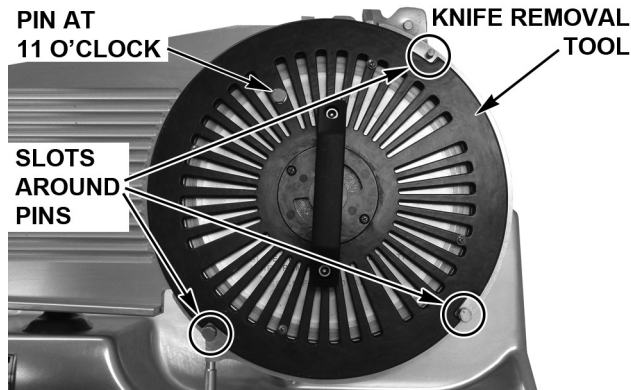

Fig. 18
- Place the Knife and Tool so the Pin on the Knife Removal Tool is at the 11 o'clock position (Fig. 18).
- Place the Slots on the Knife Removal Tool fit around the three Pins on the Ring Guard (Fig. 18).